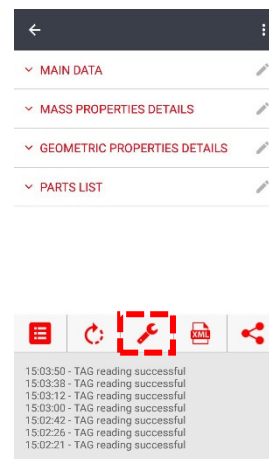
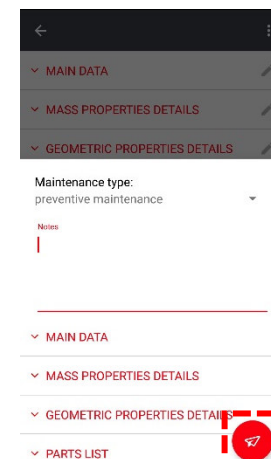

Figure 10
Figure 11
- Every time a TAG is read by the application, if the smartphone is connected to the Internet, a data packet is sent automatically to the Gimatic Cloud. It is also possible to send an extra packet manually, clicking on the wrench icon, (Figure 10) and then on the red button in the lower right part of the screen, (Figure 11). With this function, the user can send to the cloud some text messages to a communicate maintenance action among a predefined set, the possible choices are: preventive maintenance, component breakdown, component wear, regulation/calibration and configuration. In addition, it is possible to write some notes. This information can be sent also if the expert mode is disabled.